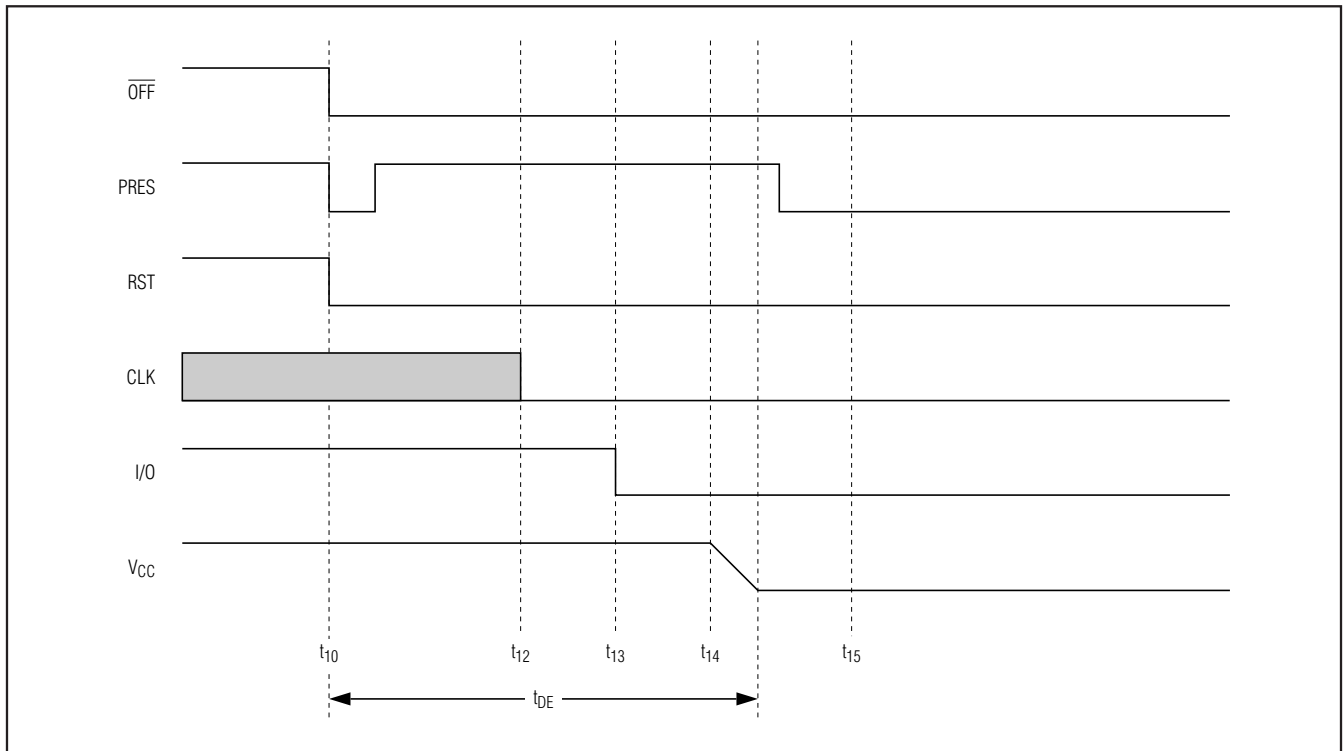

Figure 7. Emergency Deactivation Sequence (Card Extraction)
- **CMDVCC Low Within a Card Session.** Output $\overline{\text{OFF}}$ goes low when a fault condition is detected, and an emergency deactivation is performed automatically (Figure 7). When the system controller resets $\overline{\text{CMDVCC}}$ to high, it may sense the $\overline{\text{OFF}}$ level again after completing the deactivation sequence. This distinguishes between a card extraction and a hardware problem ($\overline{\text{OFF}}$ goes high again if a card is present). Depending on the connector's card-present switch (normally closed or normally open) and the mechanical characteristics of the switch, bouncing can occur on the PRES signals at card insertion or withdrawal.